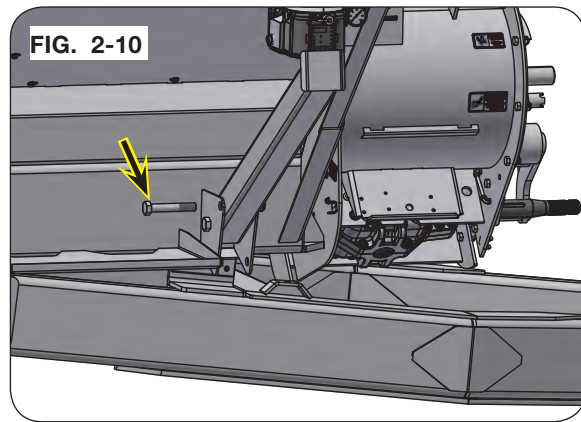

FIG. 2-10
15. Remove the 1”-8UNC x 6” capscrew (9390-195) and 1”-8UNC elastic locknut (9398-026). Rotate the support stands (276748B) upwards. Reinstall the 1”-8UNC x 6” capscrew (9390-195) and 1”-8UNC elastic locknut (9398-026). Repeat process on the opposite side of the grain cart. (FIG. 2-10)